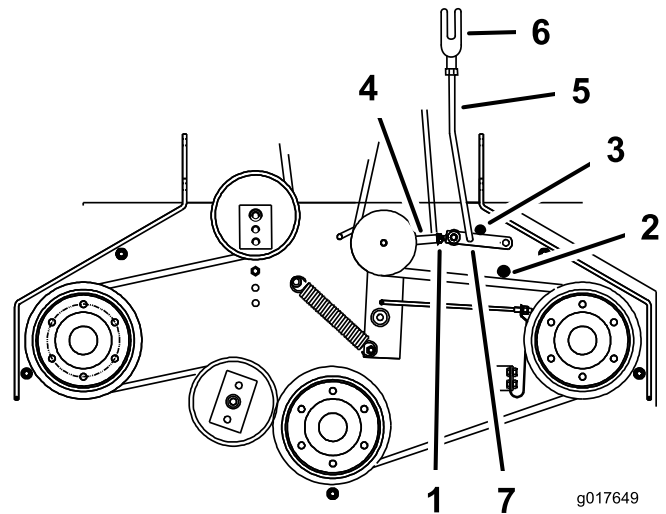

Figure 51
5. Make sure that the assist arm is against the rear-assist-arm stop on the deck (Figure 51).
7. The assist arm should contact the front-assist-arm stop on the deck. If it does not contact, adjust the bellcrank so that it is closer to the gusset (Figure 51).
8. To adjust the assist arm link, remove the hairpin cotter pin from the assist arm (Figure 51).
11. Install the assist arm link into the assist arm and secure it with the hairpin cotter pin (Figure 51).